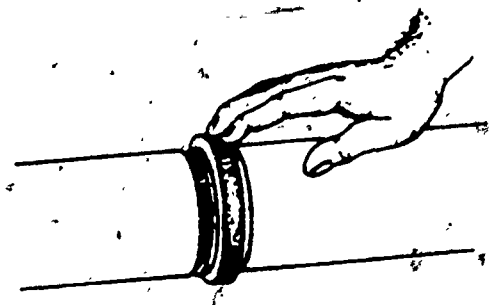

Figure 5. Positioning Gasket
2. Slide gasket over one pipe, bringing pipe ends together, see figure 5.